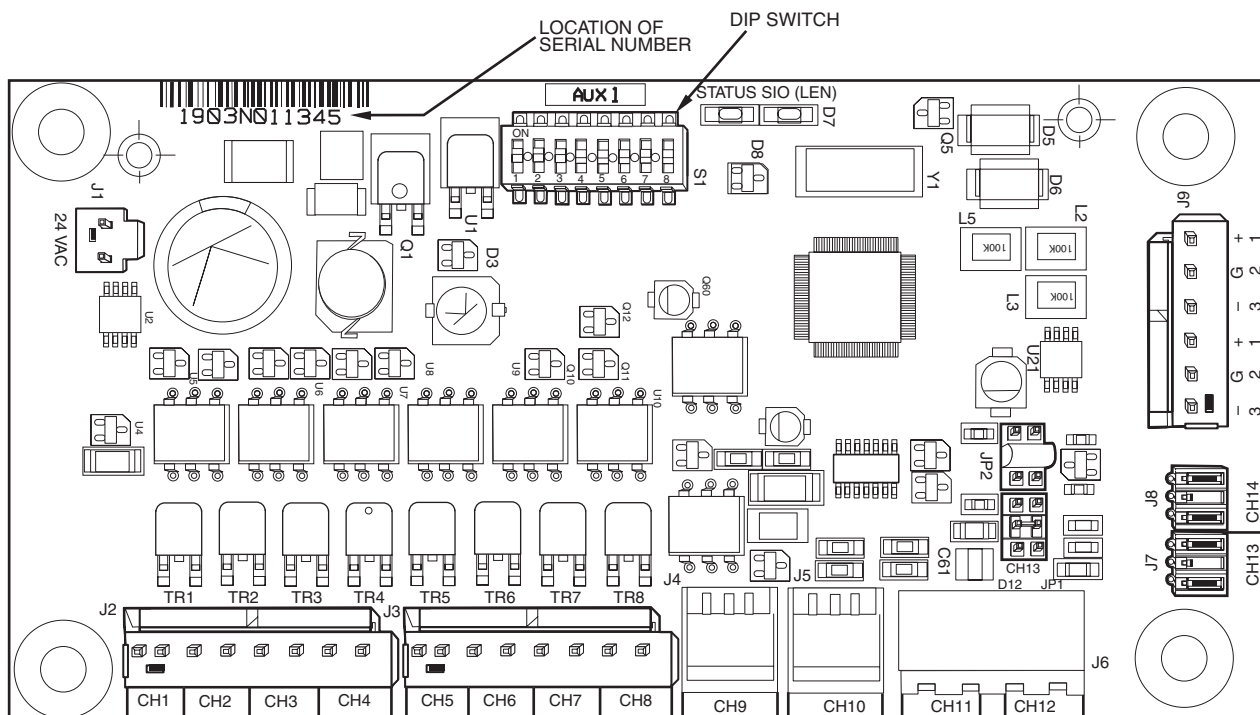

Fig. 17 — AUX Board
**Auxiliary (AUX) Boards** — Two AUX boards, AUX Board 2 and AUX Board 3, are installed in each unit. (AUX Board 1 is field installed only with the Dual Chiller Accessory.) See Fig. 17. The AUX boards respond to commands from the Touch Pilot™ module and send the Touch Pilot module the results of the channels they monitor via the Local Equipment Network (LEN). See below for AUX board 1, 2, and 3 DIP switch settings. See Tables 6-8 for a list of inputs and outputs for the AUX boards.